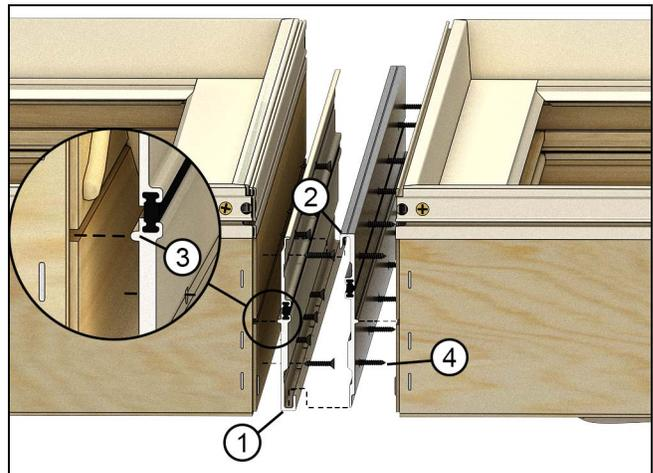

Figure 16
**3. The MRF components come in two parts.** The beige piece always has the hooked end to the interior. The black piece always has the "hooked" end to the exterior. Insert the alignment leg on the MRF component into the MRF kerf in the frame. Flush the MRF component with the end of the mull and fasten to the frame with #8x5/8" screws in every hole of the MRF. See Figure 16.